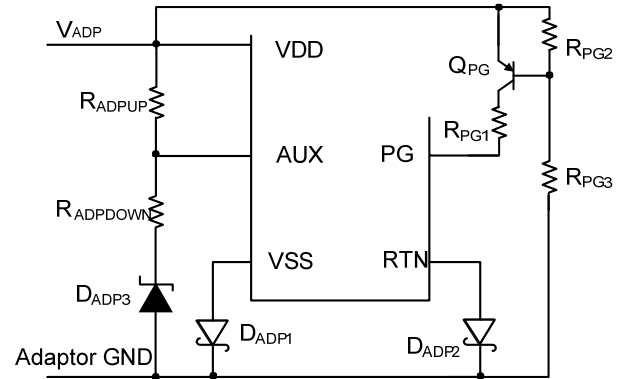

Figure 6: Wall Adaptor Detection Circuit
When an auxiliary power source, such as a wall power adapter, is used to power the device, the resistor dividers R_{ADPUP} , $R_{ADPDOWN}$, and D_{ADP3} should be chosen to satisfy Equation (1) for correct wall power adaptor detection (see Figure 6).
The MP8008L enables wall adapter detection at VDD = 11.5V. If an adapter power with a lower voltage rating (i.e.: 10V) is used to power the converter, an external PG pull-up resistor is necessary to enable the downstream DC/DC converter. Refer to Figure 6 and the following Power Good (PG) section for more detail.
If an adapter power lower than 11.5V is connected to supply the converter, the PG function is unable to work with such a low input. An external PG pull-up circuit is recommended (see Figure 6). Typically, Q_{PG} needs a V_{CE} voltage higher than 100V (i.e.: BSS63LT1). Choose R_{PG2} = 7.5k Ω and R_{PG3} = 100k Ω for a 12V adapter with some margin of adapter regulation. Choose R_{PG1} = 100k Ω to limit the PG sink current below 0.6mA when VDD is high.